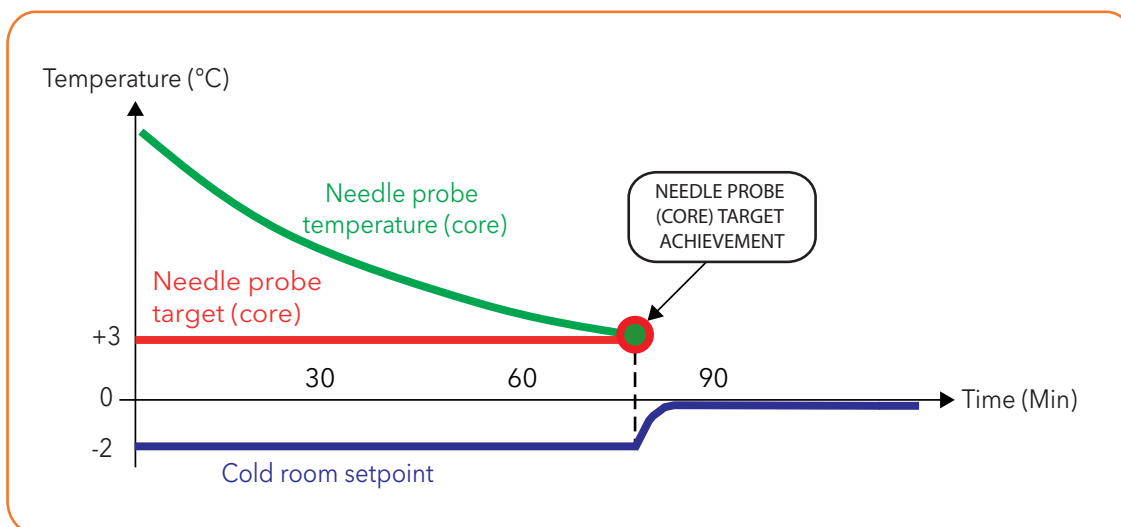

Fig. 6. Positive program
- positive (cooling), with positive reference temperature (target temperature) (**Fig. 6 on page 16**);